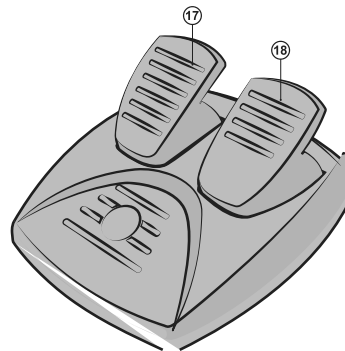

Fig. 3. Foot pedal unit
- Connect the pedal unit to the device (Fig. 3) using the cable built into the unit to the connector, and then connect the device itself with a USB cable to a free USB port on the computer.